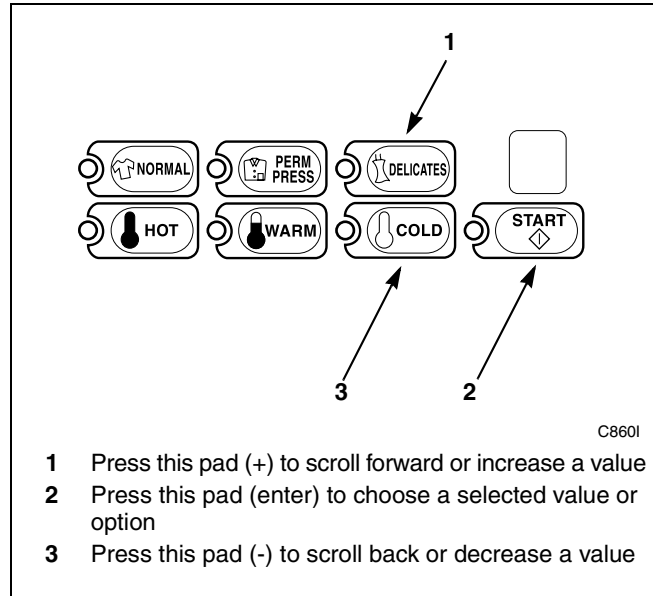

Figure 137
5. Press the DELICATES (+) or the COLD (-) keypad to increase or decrease the current number of minutes displayed in the VFD to the desired number of minutes. Refer to *Figure 137*.
**NOTE: The Normal Rinse Agitate Time can be set from zero (0) to 15 minutes.**